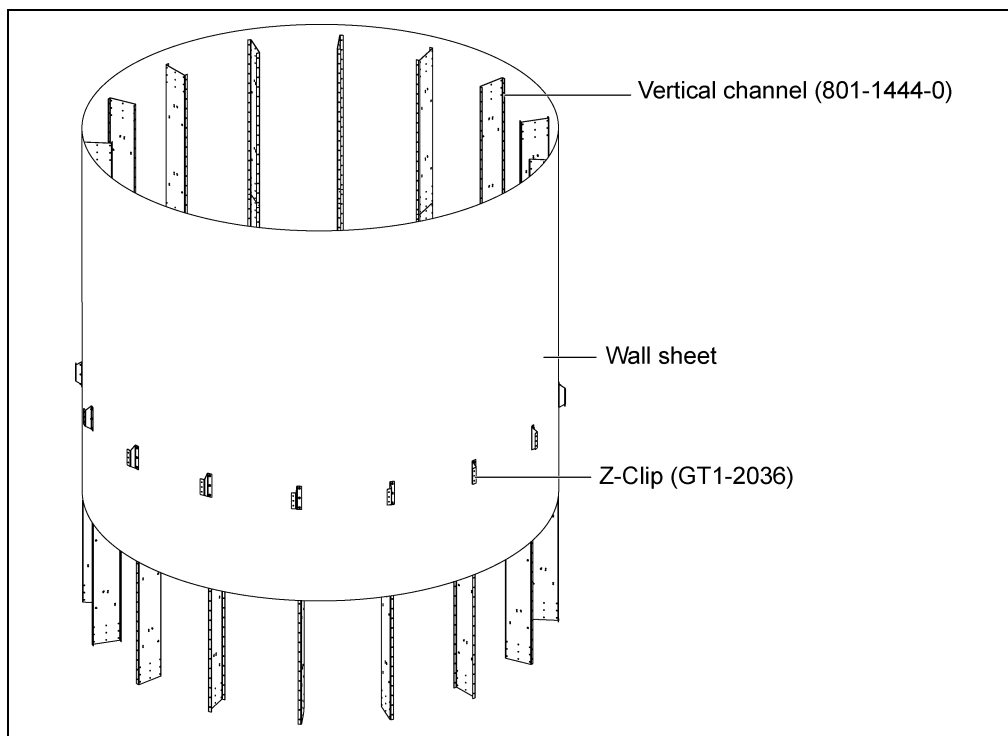

Figure 4A
1. Bolt Z-clip (GT1-2036) to all vertical channels (801-1444-0). The Z-clip can be installed on each vertical channel as wall sheets are installed using 3/8"-16 x 1" JS grade 8 or grade 8.2 bolts (S-7485) and 3/8"-16 ZN grade 5 nuts (S-968). (See Figure 4A and Figure 4B.)